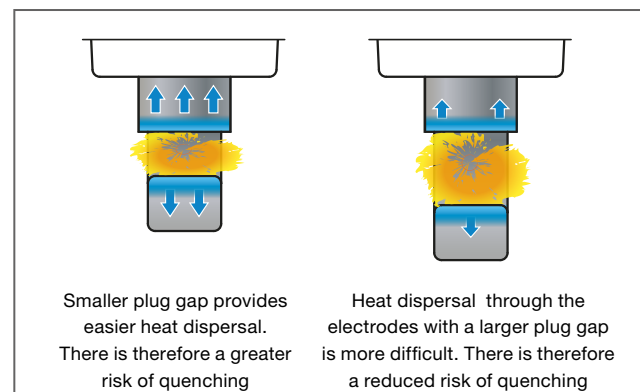

Fig 6.16 Quenching effect created by small and large plug gaps
**Spark plug gap.** With a small electrode gap (Fig 6.16), the electrodes are close to the flame kernel, which makes it easy for the heat to disperse away from the flame to the electrodes; therefore the quenching effect is greater. A bigger spark plug gap has increased space, reducing the interference in the flame generation.